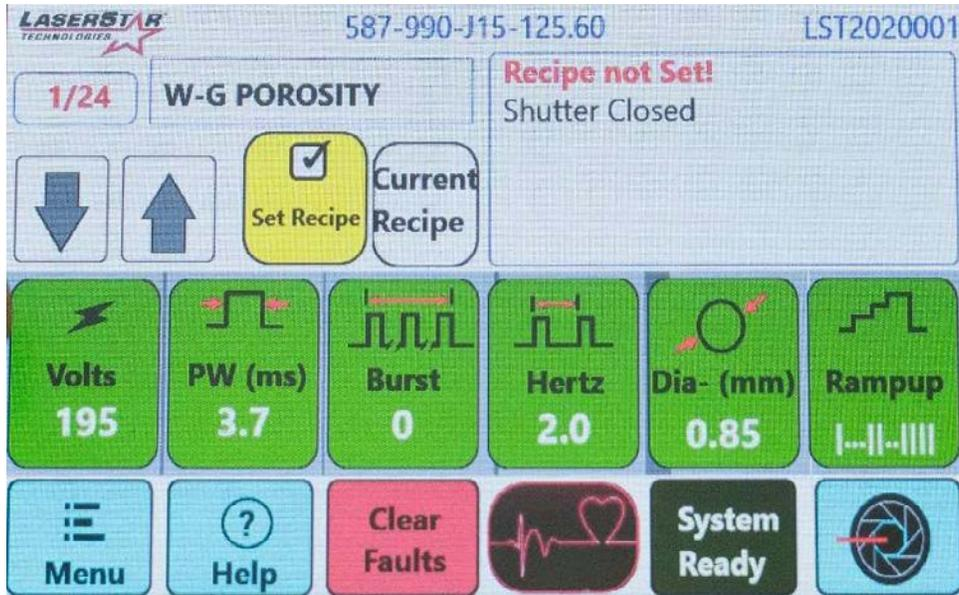

Figure 11
The display layout is shown in **figure 11** below. The first row shows recipe location, description of the recipe and messages; the second row displays operational / mode choices, Arrow Keys, Set Recipe, and current Recipe. The third row Green buttons display weld parameters-Voltage (V), Pulse Length (mS); Pulse Rate (Hz), Burst Mode or Pulse Suppression (optional / model specific); Beam Diameter; and Shape. The fourth row displays Laser Shutter status, System Ready, heartbeat indicator, Clear faults, help and Menu. **(Note: When the heartbeat button indicator is beating, the welder is ready to weld. The Safety Shutter button is used to open and close the safety shutter and displays the status.)**